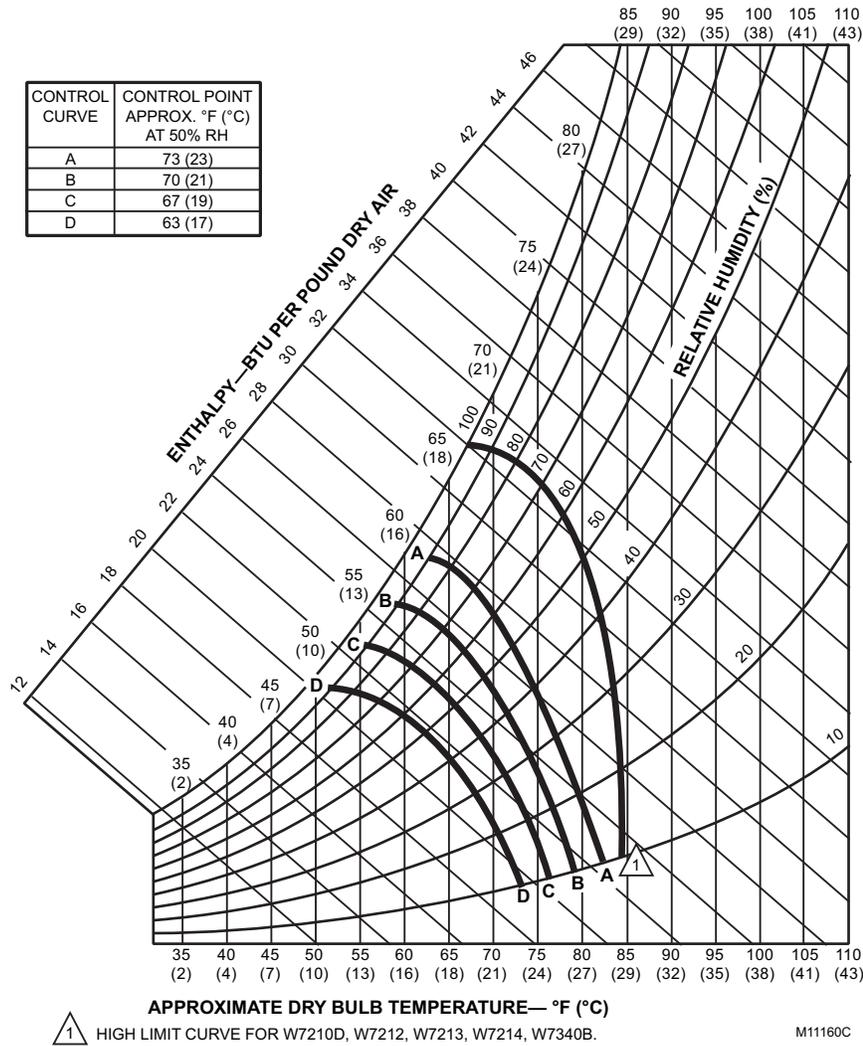

Fig. 7. W7212A, W7213, W7214 performance characteristics for enthalpy changeover settings.
Single enthalpy compares the outdoor air conditions to a set A, B, C, or D (E) curve for humidity and temperature conditions. The installer must set the onboard potentiometer to the desired curve. The outdoor enthalpy changeover setpoint returns the outdoor air damper to minimum position. Enthalpy setpoint scale markings, located in the device, are A, B, C, and D for the W7212A, W7213 and W7214. See Fig. 7 for the corresponding control point. Enthalpy setpoint scale markings for the W7212C are A, B, C, D and E. See Fig. 8 for the corresponding control points. The factory-installed 620-ohm jumper must be in place across terminals SR and SR+. Temperature and humidity conditions to the left of the selected curve will allow the dampers to open for free cooling, temperature, and humidity conditions to the right of the curve